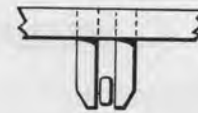

FIG. 4
1. Equally spaced and pins properly closed. (Fig. 4.)